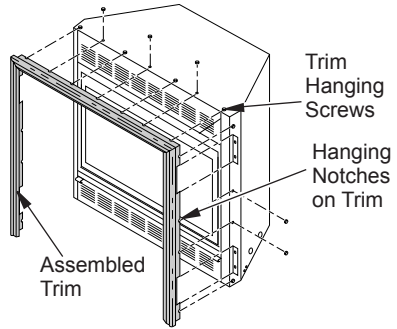

Figure 7 - Attaching Trim to Fireplace
8. Tighten trim hanging screws (#10 x 6.25 shoulder) into holes in cabinets. Place assembled trim onto fireplace cabinet. Align hanging notches on trim with hanging screws on side of fireplace (see Figure 7). Push trim firmly into place, sliding hanging notches over hanging screws.
15. Install trim after final finishing and/or painting of wall (see Figure 7, page 9).